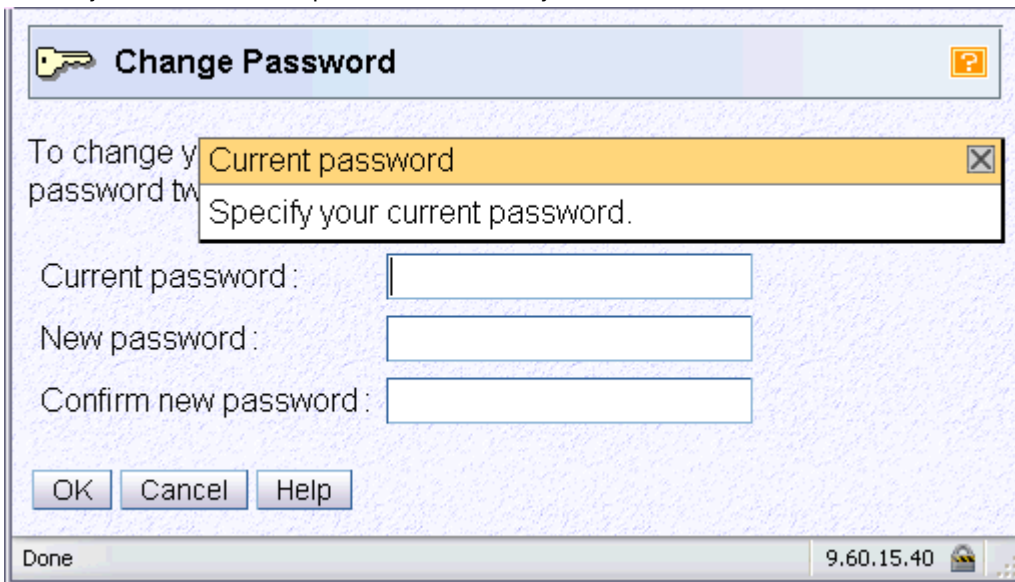

Figure 4. Context sensitive help enabled
2. Once context sensitive help is enabled the **i** in the upper right corner of the task window changes to an orange **?**. As you place your cursor over the input fields or selectable fields the abbreviated help text is displayed in a small box within the task window (see Figure 4 on page 15). Using the Tab key also allows you to view the help for each field. As you tab to each field, context sensitive help is displayed.